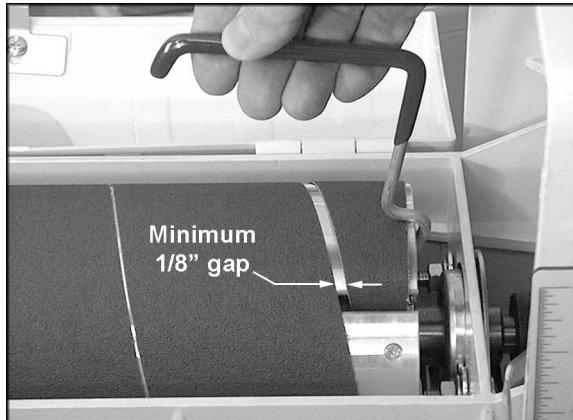

Figure 15
10. Turn the TUFTool counterclockwise and lower it onto the abrasive strip, making sure it is holding the paper tight (Figure 15).
IMPORTANT: Leave a gap – at least 1/8" – between the tapered strip and the closed end of the slot (Figure 15) to allow strip to be pulled into the fastener as needed. If necessary, trim the outside edge of the abrasive strip.